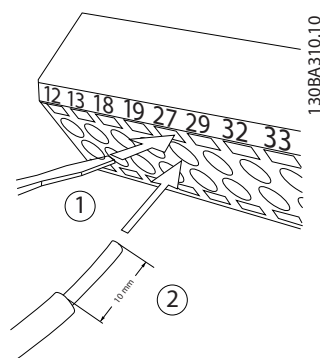

Figure 2.13 Connecting Control Wiring
1. Open the contact by inserting a small screwdriver into the slot above or below the contact, as shown in *Figure 2.13*.